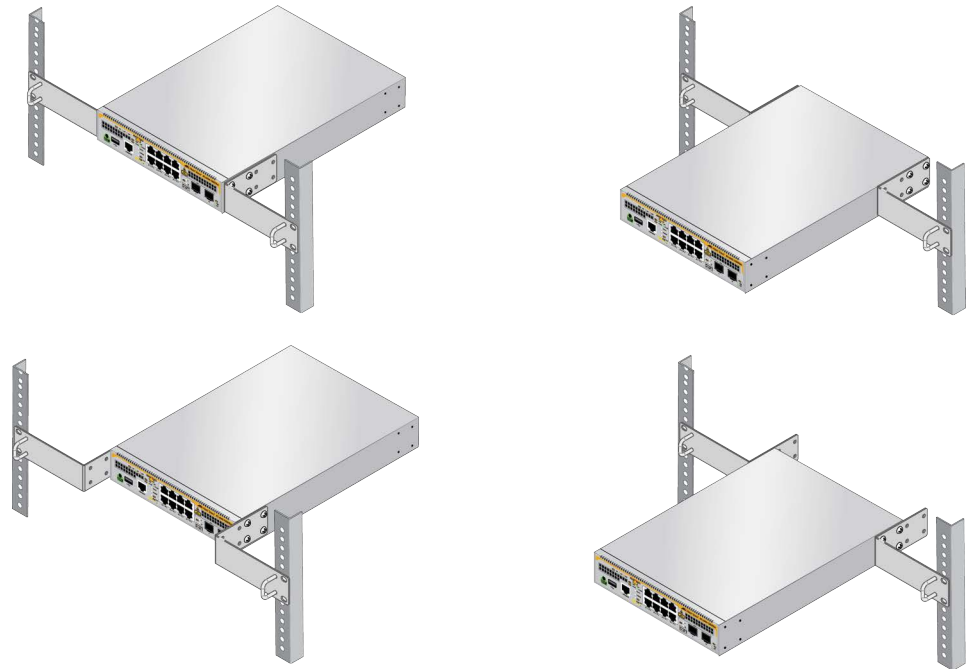
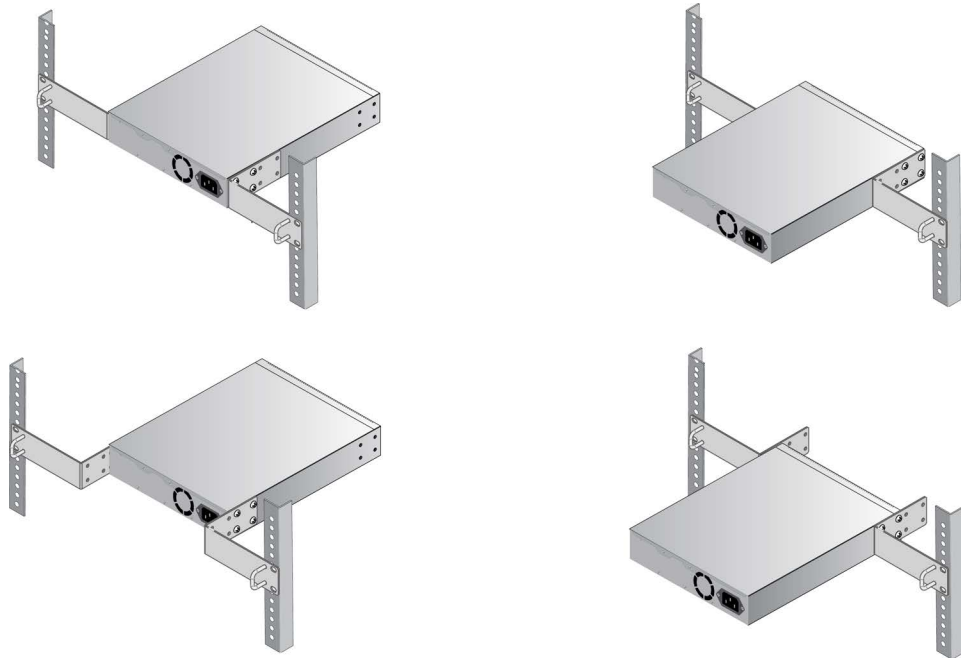
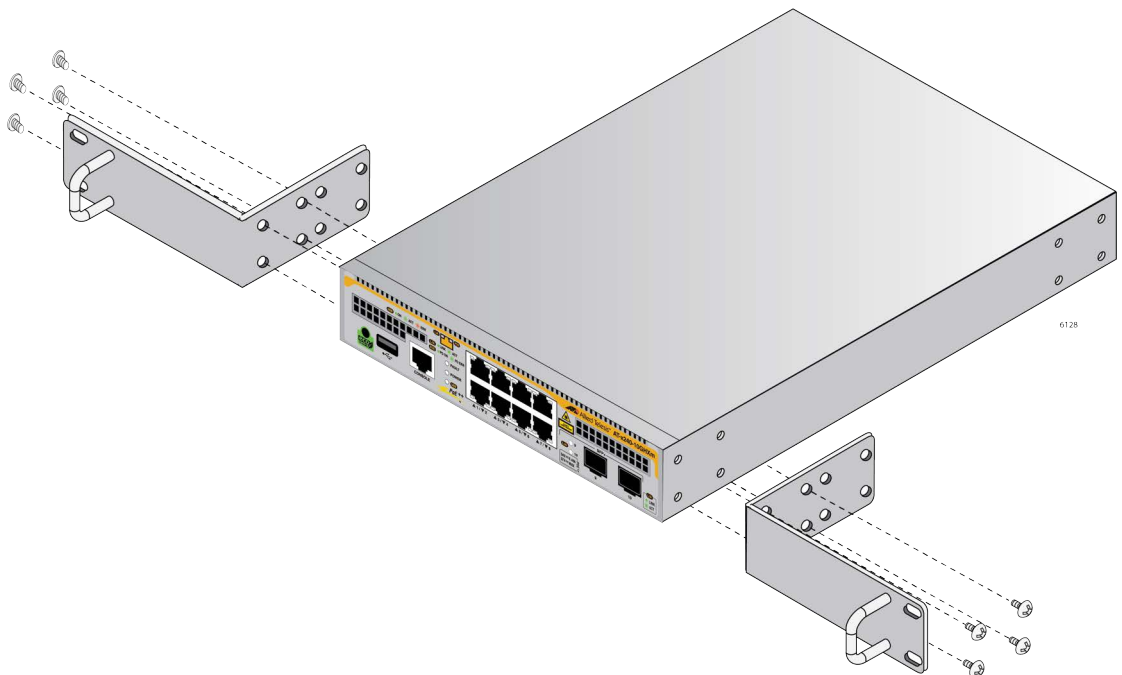

Figure 31. Switch Orientations with the Front Panel Facing the Front of the Equipment Rack
Figure 32. Switch Orientations with the Rear Panel Facing the Front of the Equipment Rack
Figure 34. Attaching the RKMT-J14 Brackets to the x240-10GHXm and x240-10GTXm Switches
You can use the different sets of holes on the switch and brackets to install the switch in the equipment rack in a variety of orientations. You can install it with the front panel flush with, extending in front of, or recessed behind the front of the equipment rack. The illustrations in Figure 31 show the switch orientations with the front panel facing the front of the equipment rack.
You can also orient the switch with the rear panel facing the front of the equipment rack. Refer to Figure 32.
3. Attach the two brackets to the sides of the switch in the selected position, using the eight M4x6mm screws included in the bracket kit. (Refer to Figure 31 on page 61 and Figure 32 on page 62.) The illustration in Figure 34 shows the installation of the brackets such that the front panel of the switch is even with the front of the equipment rack.